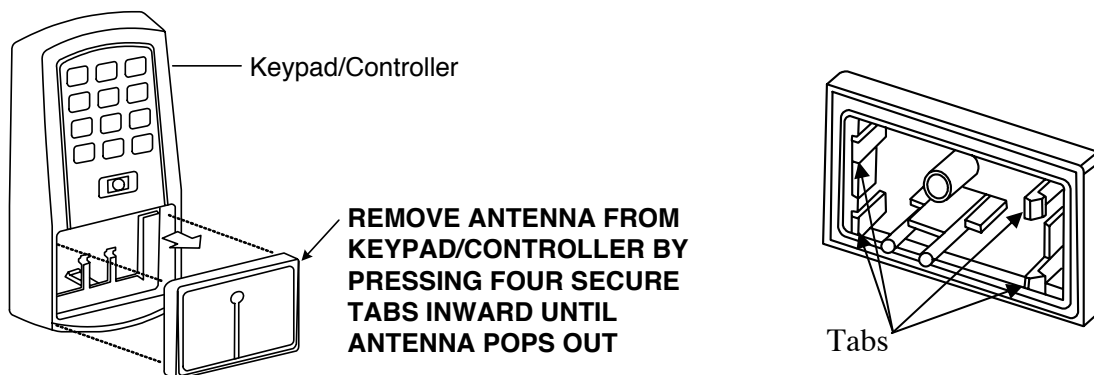

Figure 6 Removing Prox Antenna
2. Remove the antenna housing from the keypad/controller by pressing the four secure tabs inward (see Figure 6) until the sensor housing pops out.